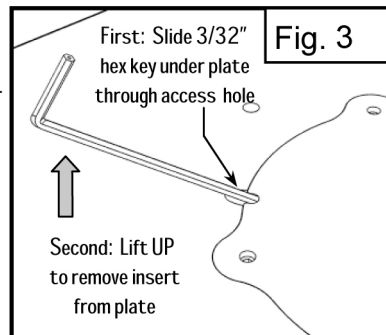

Fig. 1 Install Magna-LOCK ring insert
Orient the ring insert relative to the router plate as shown in Figs. 1 & 2, then lower the plate into the plate recess. The (4) rare earth magnets are extremely powerful, and the ring insert will SNAP into place.